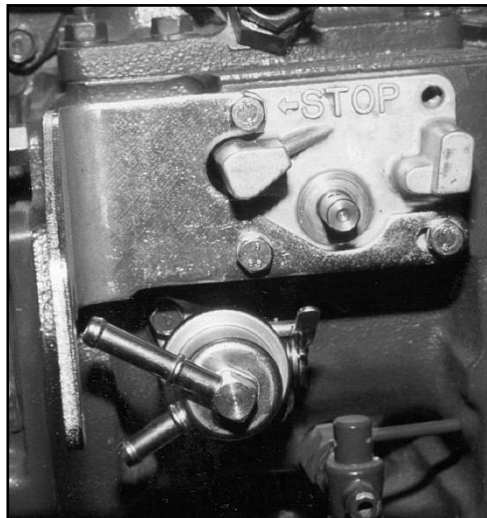

Figure 8. Interference with Solenoid Mounting Bracket on Pump with Non-Removable Cover
- 2.6 Use the following instructions to rotate or reposition fuel transfer pump inlet/outlet tubes and re-route the fuel hose on pumps with *non-removable* covers. Refer to **Figure 8**.
On some engine models, the fuel transfer pump may be positioned differently than shown in Figure 8, resulting in no interference with the solenoid mounting bracket. If there is no interference, install bracket and proceed to “Solenoid Installation & Adjustment” section.